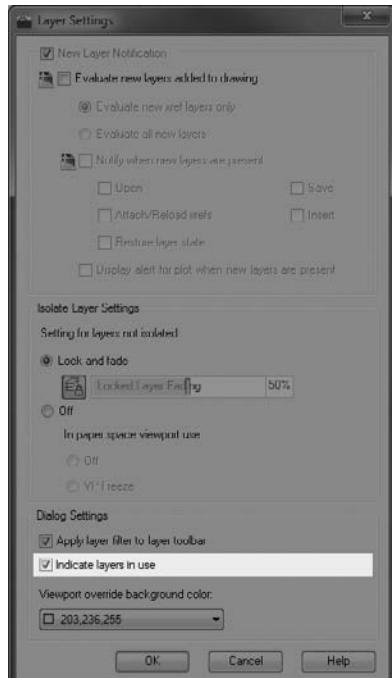

FIGURE 6.30 Enabling the Indicate Layers In Use option from the Layer Settings dialog box
4. The Layer Settings dialog opens. In the Dialog Settings group near the bottom, enable the Indicate Layers In Use option (see Figure 6.30), and click OK.